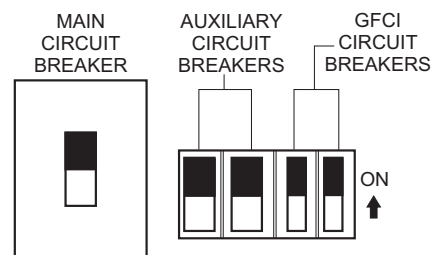

Figure 54. Main, Auxiliary, And GFCI Circuit Breakers (ON Position)
12. Place the **main, auxiliary, and GFCI circuit breakers** in the **ON** position (Figure 54).